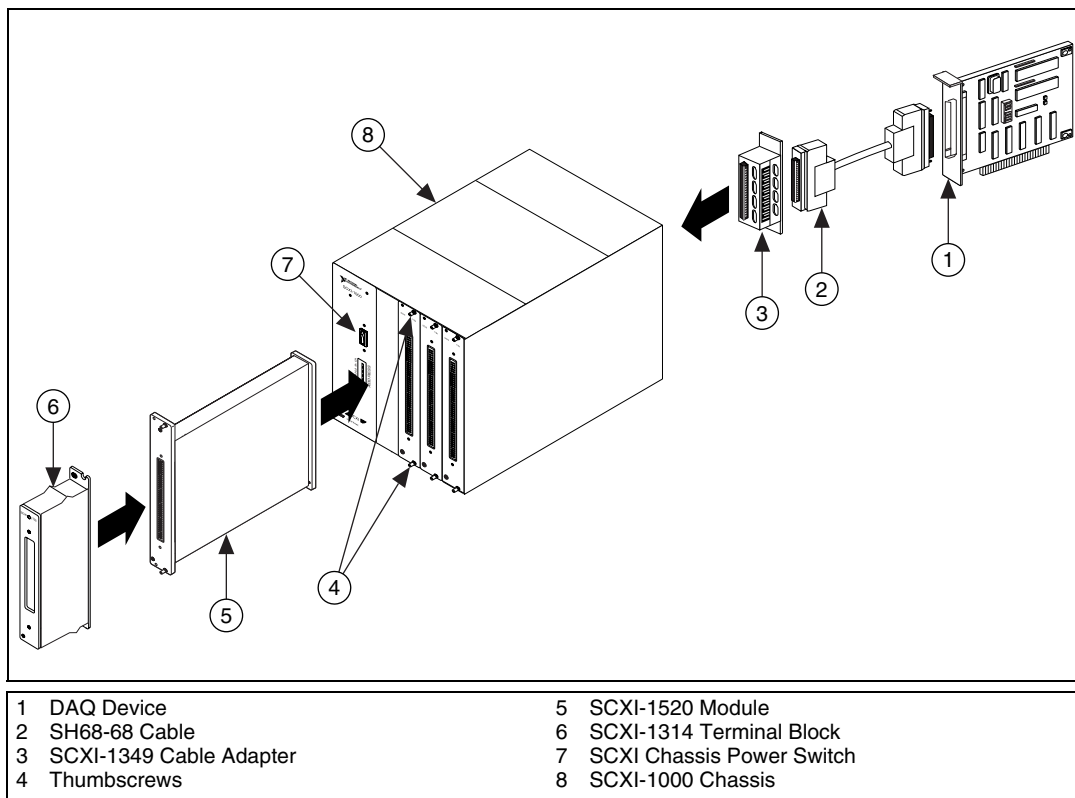

Figure 1. Connecting an SCXI Chassis to a DAQ Device
2. Using an SCXI-1349 cable adapter, connect a 68-to-68-pin cable between the SCXI-1520 module and the DAQ device installed in the host computer, as shown in Figure 1.